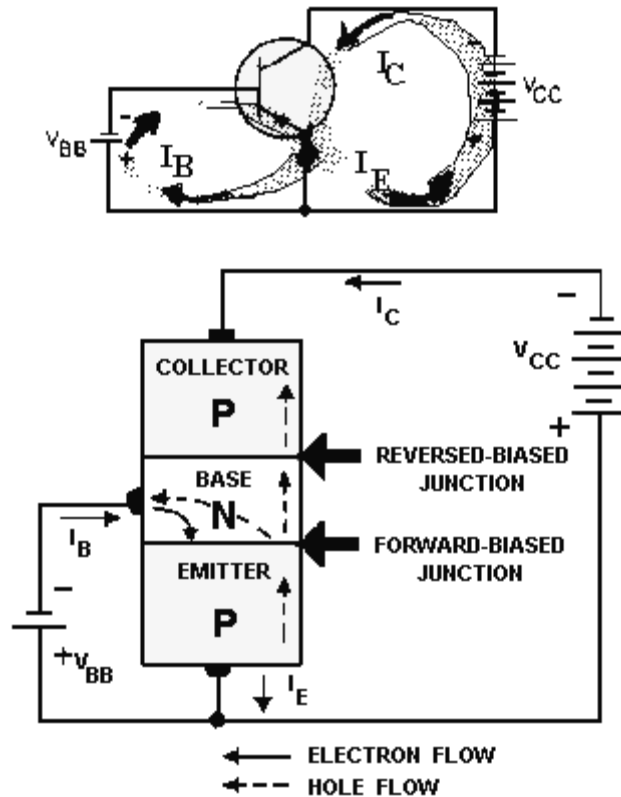

Figure 2-11.—PNP transistor operation.
**PNP JUNCTION INTERACTION.**—The interaction between the forward- and reverse-biased junctions in a PNP transistor is very similar to that in an NPN transistor, except that in the PNP transistor, the majority current carriers are holes. In the PNP transistor shown in figure 2-11, the positive voltage on the emitter repels the holes toward the base. Once in the base, the holes combine with base electrons. But again, remember that the base region is made very thin to prevent the recombination of holes with electrons. Therefore, well over 90 percent of the holes that enter the base become attracted to the large negative collector voltage and pass right through the base. However, for each electron and hole that combine in the base region, another electron leaves the negative terminal of the base battery ( $V_{BB}$ ) and enters the base as base current ( $I_B$ ). At the same time an electron leaves the negative terminal of the battery, another electron leaves the emitter as  $I_E$  (creating a new hole) and enters the positive terminal of  $V_{BB}$ . Meanwhile, in the collector circuit, electrons from the collector battery ( $V_{CC}$ ) enter the collector as  $I_C$  and combine with the excess holes from the base. For each hole that is neutralized in the collector by an electron, another electron leaves the emitter and starts its way back to the positive terminal of  $V_{CC}$ .